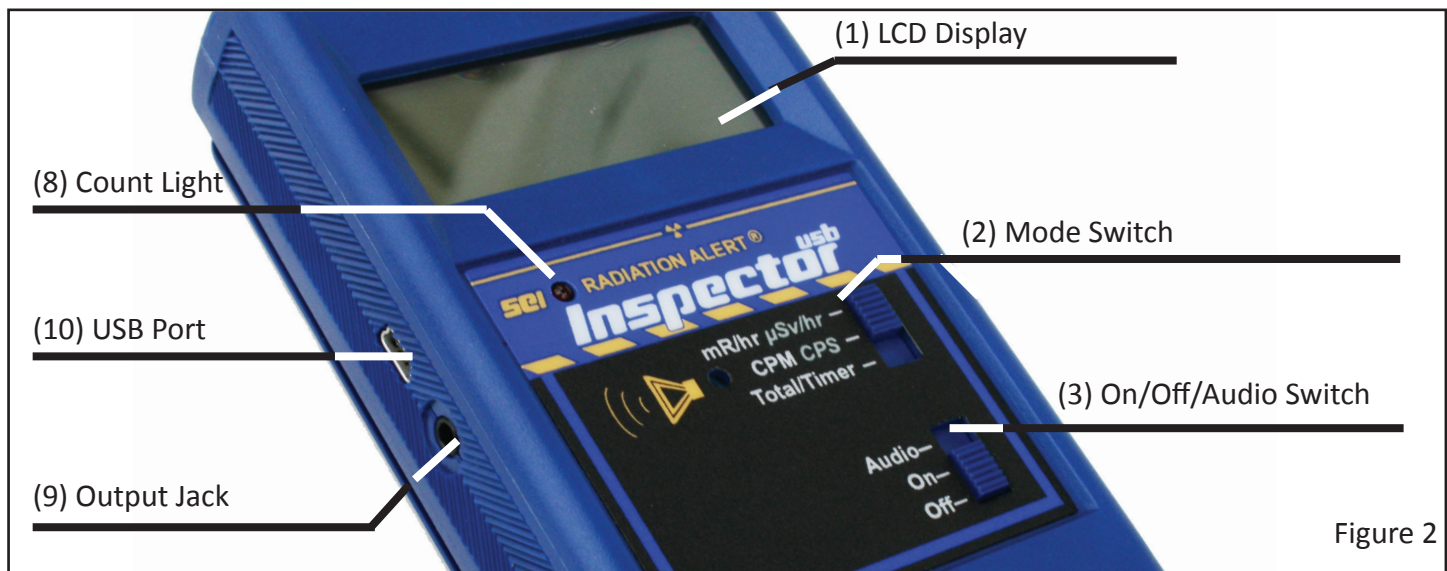

Figure 2
The SEI Inspector EXP measures alpha, beta, gamma, and x-ray radiation. It is optimized to detect small changes in radiation levels and to have high sensitivity to many common radionuclides. *For more information, see Appendix A, Sensitivity to Common Radionuclides.* This chapter briefly describes the SEI Inspector EXP's functions. *For more information on how to use the SEI Inspector EXP, see Chapter 3: Operation.* The SEI Inspector EXP counts ionizing events and displays the results on the liquid crystal display (LCD). You control which unit of measurement is shown by using the mode switch. Whenever the SEI Inspector EXP is operating, the red count light flashes each time a count (an ionizing event) is detected *Figure 2 (8).*
The LCD Display *Figure 2 (1)*
Mode Switch *Figure 2(2)*
Off/On/Audio Switch *Figure 2 (3)*
The Output Port *Figure 2 (9)*
The USB Port *Figure 2 (10)*